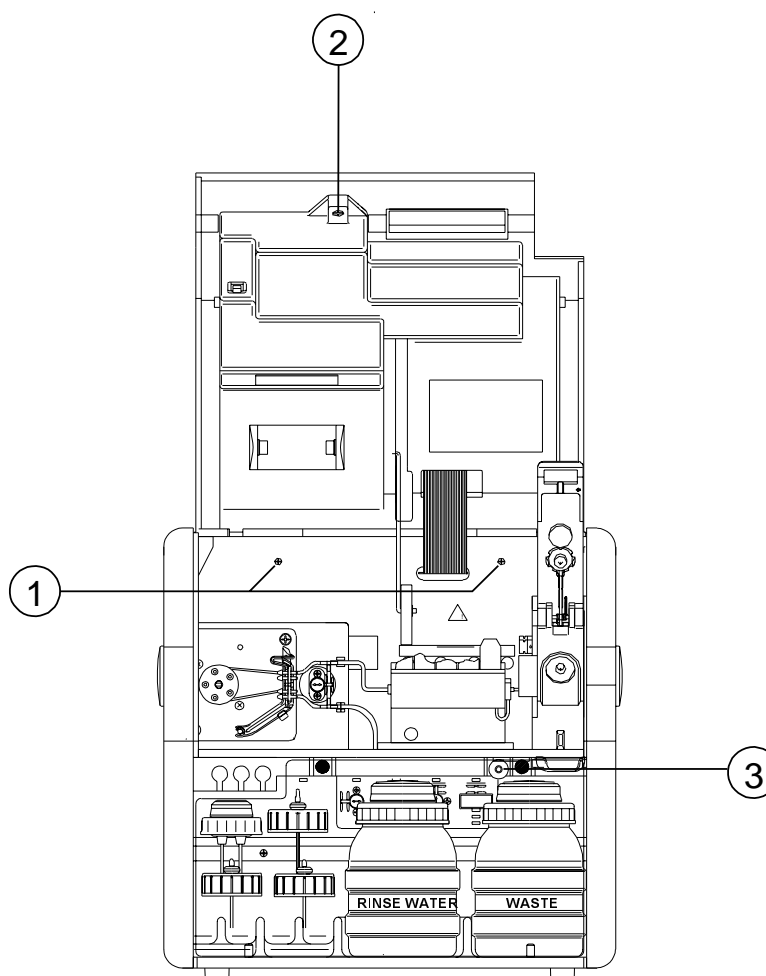

Fig. 5-1: Housing
In order to assembly or disassembly the aggregates, valves, KCl- and vacuum pump, it is necessary to pull back the housing console after removing the 4 screws (see Fig. 5-1, 1; two screws are accessible from the rear of the analyzer).
2. Pull out the locking knob (see Fig. 5-1, **3**) until resistance is felt.
6. Press the locking knob (see Fig. 5-1, **3**) to secure the block. A spring presses the block onto the sample inlet path in the fixed position.